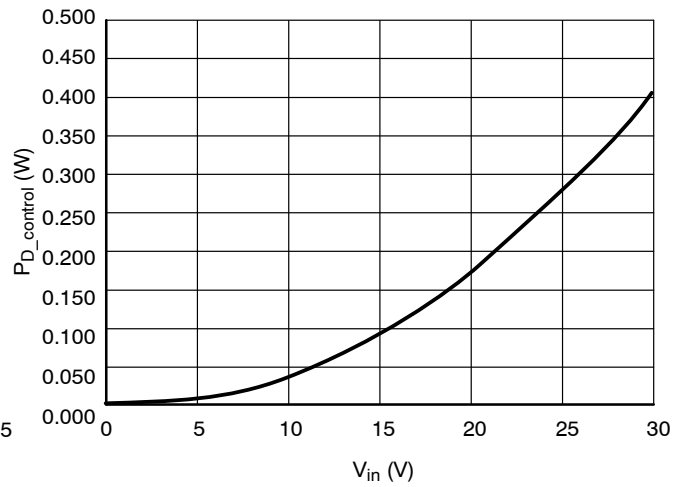

Figure 4. Internal Circuit Power Dissipation vs. Input Voltage
7. Establish Power Dissipation on the NUD4001 device's control circuit per Figure 4:
- a.  $P_{D\_control} = \text{Figure 4, for } 12 \text{ V input voltage}$